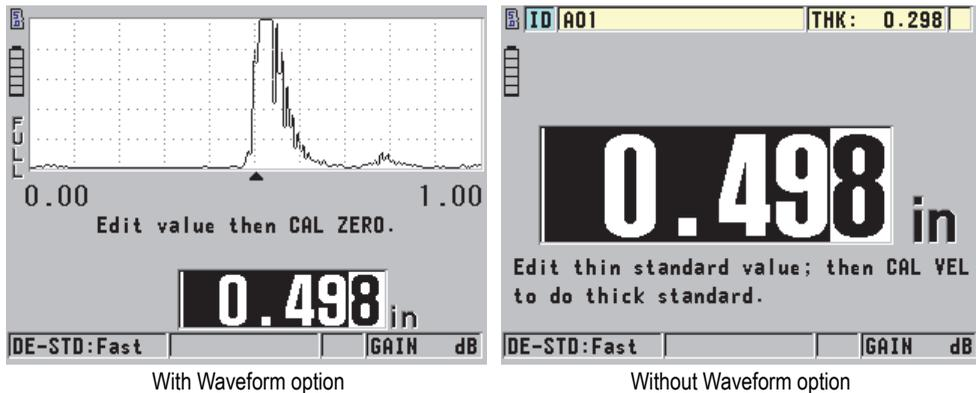

Figure 5-5 Performing the sound velocity calibration on a five-step test block
1. To perform the material sound velocity calibration using an instrument with or without the Waveform software option (see Figure 5-5 on page 54):